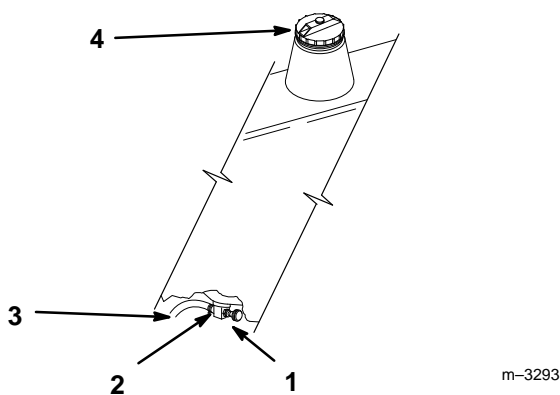

Figure 27
2. Close fuel shut-off valve at fuel tank (Fig. 27).
6. Open fuel shut-off valve at fuel tank (Fig. 27).
3. Loosen the hose clamp and slide it up the fuel line away from the fuel shut-off valve (Fig. 27).
4. Pull the fuel line off fuel shut-off valve (Fig. 27). Open fuel shut-off valve and allow gasoline to drain into a gas can or drain pan.
5. Install the fuel line onto the fuel shut-off valve. Slide the hose clamp close to the fuel shut-off valve to secure the fuel line (Fig. 27).